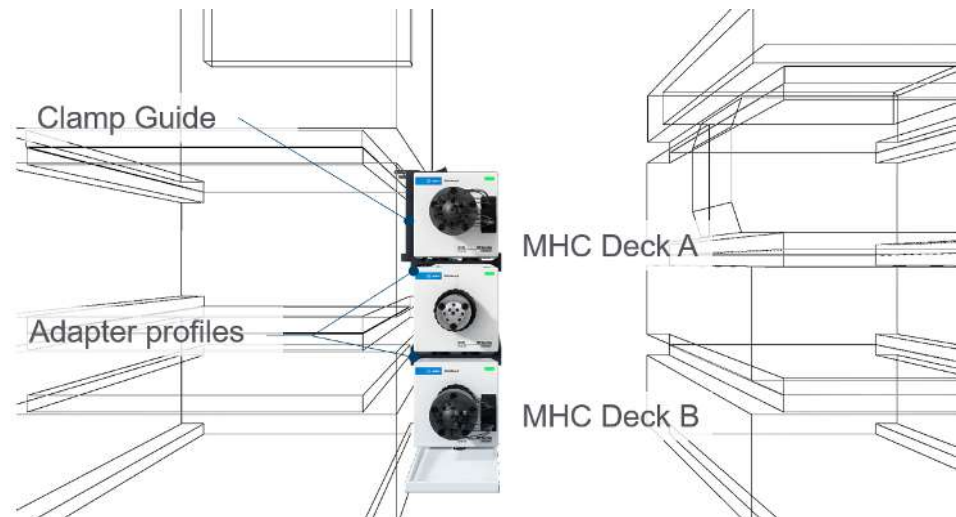

Figure 27: Schematic of the installation and attachments of the 2D-LC valve and optionally the MHC decks.
- 4 Attach the adapter-profile on each of the other external valve drives and mount them according to the positions shown in Figure 27 on page 61.